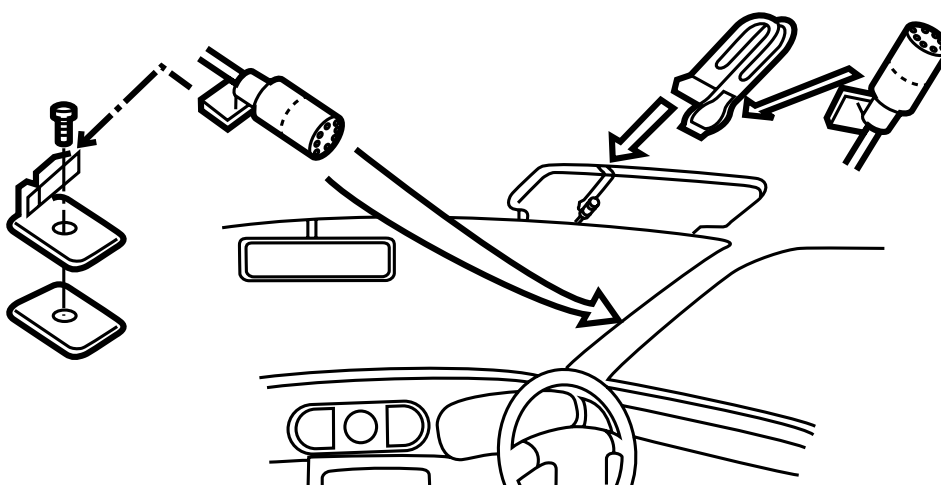

Figure 5: Microphone Installation
2. Mount the microphone onto the sun visor as shown in figure 5.